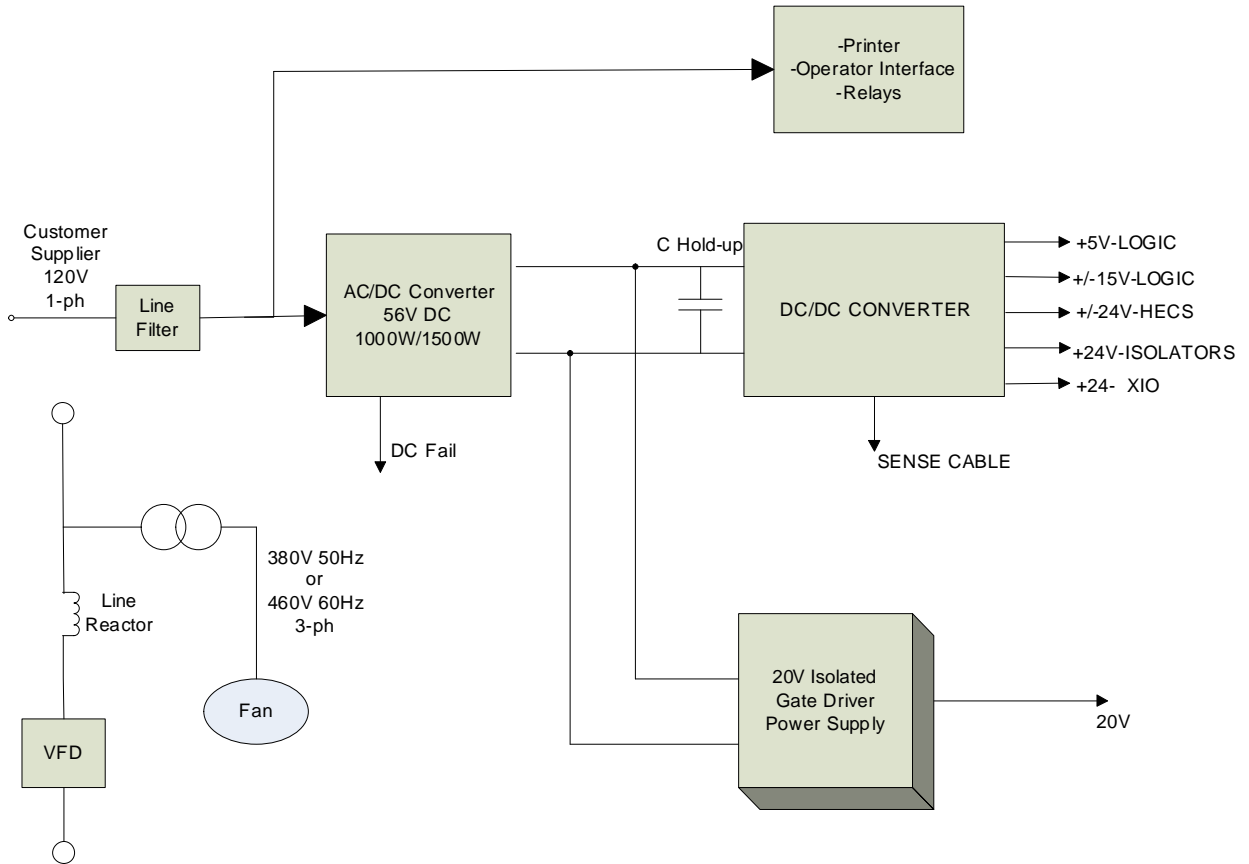

Figure 4.45 – AFE Line Reactor Drives
1. Line Reactor Drive (refer to Figure 4.45)
Figure 4.45 illustrates the control power distribution for 6-pulse and PWM drives with integral starter/line reactor.